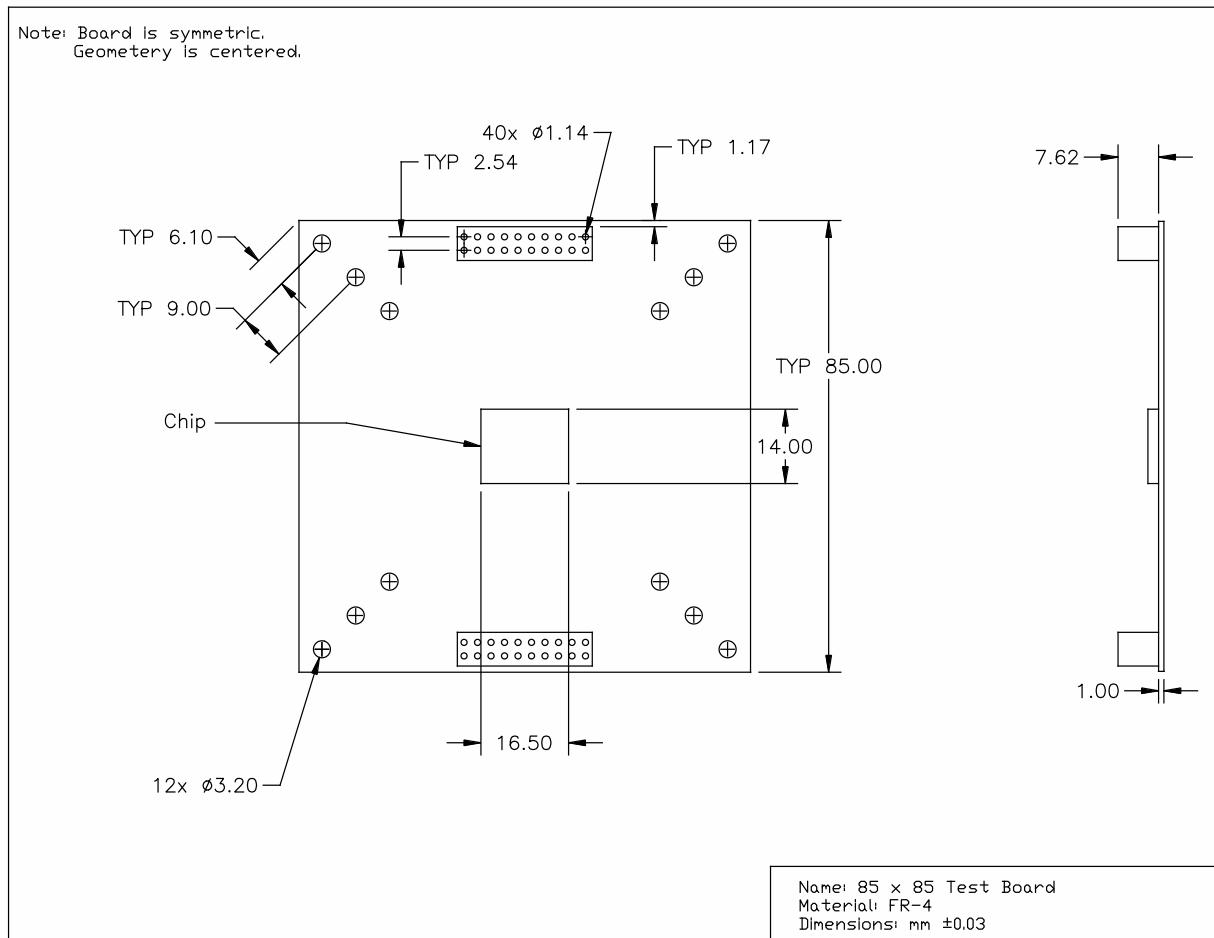

Figure 6.1 CAD Drawing for Test Board Design for BLRT (for Small IC Packages)
16. Mechanical Test Board	See Figure 6.1 for details on typical mechanical test board.
- For small IC packages refer to Figure 6.1.